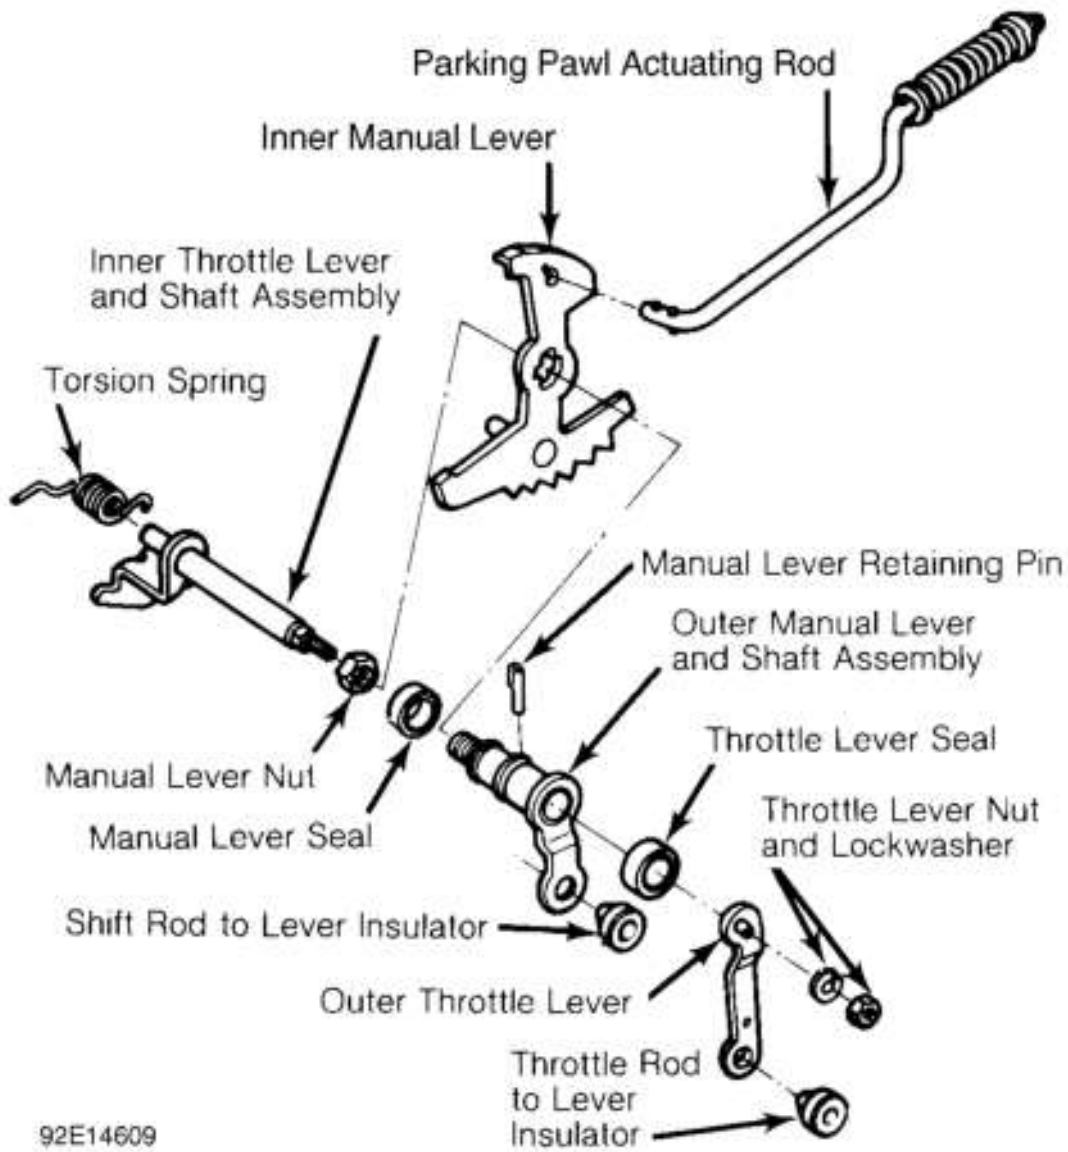

Fig. 5: Exploded View of Manual & Throttle Linkage
1. Install new manual lever oil seal into case using appropriate driver. With manual lever nut on inner throttle lever, slide inner throttle lever through inner manual lever. See **Fig. 5**.